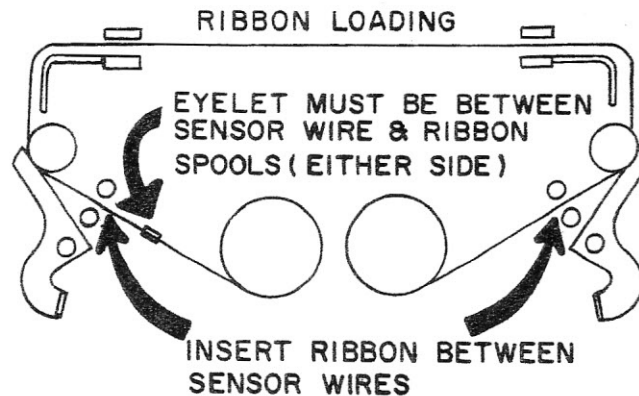

Figure 3-5. Ribbon Threading Diagram
Raise the hinged lid of the teleprinter cover and note the diagram affixed to the inside of the cover. This diagram is reproduced here as Figure 3-5 and reference should be made to it while installing the ribbon to ensure that proper threading path is followed.
- (2) Carefully clear the ribbon from the left- and right-hand sensing wires. Depress one of the break arms inwardly (toward the rear of the machine) and lift ribbon free from its guide spool. Repeat this procedure for the other brake arm. Unthread the ribbon from remaining guides adjacent to the platen. See Figure 3-5.
- (3) If your replacement ribbon has a new take-up spool preconnected to it, proceed to Step 4.
Be sure that the orientation of the spools and ribbon is as shown in Figure 3-5.